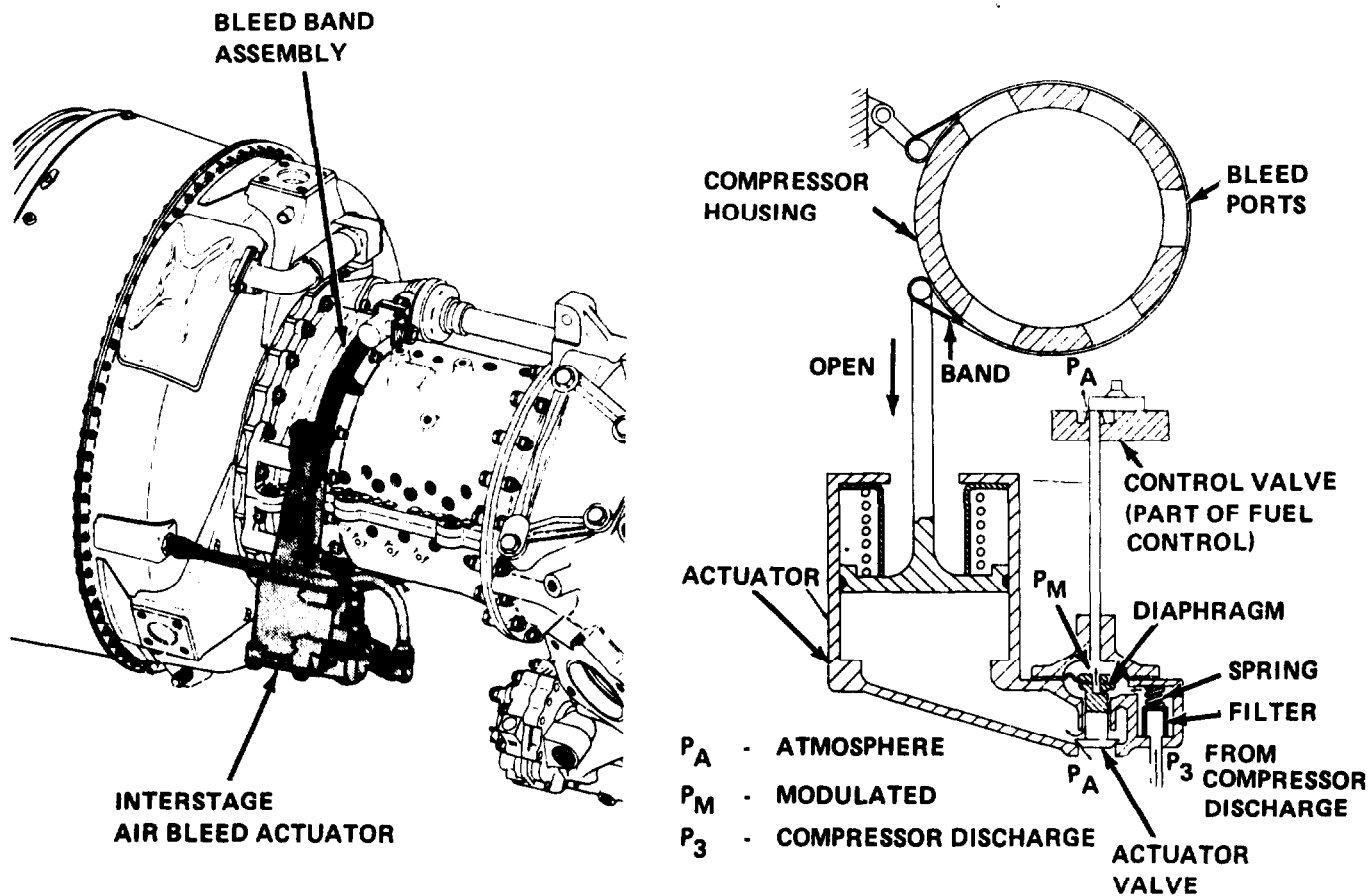

Figure 1-29. Interstate Airbleed System
**1-28. Interstate Airbleed System. (See figure 1-29.) Facilitates acceleration of compressor rotor assembly.**
- A INTERSTAGE AIRBLEED ACTUATOR. Operation controlled by a signal from fuel control assembly. When control valve in fuel assembly is open, one side of diaphragm vents to atmosphere (PA). Air from compressor discharge (P3) creates a pressure drop across diaphragm. This allows actuator valve to open, venting actuator housing to atmosphere (PA). The spring-loaded actuator piston moves down, opening the bleed band. When control valve in fuel assembly is closed, pressure on both sides of diaphragm will be equal. This closes the actuator. Air from compressor discharge (P3) enters actuator housing. Actuator piston moves up, closing bleed band.